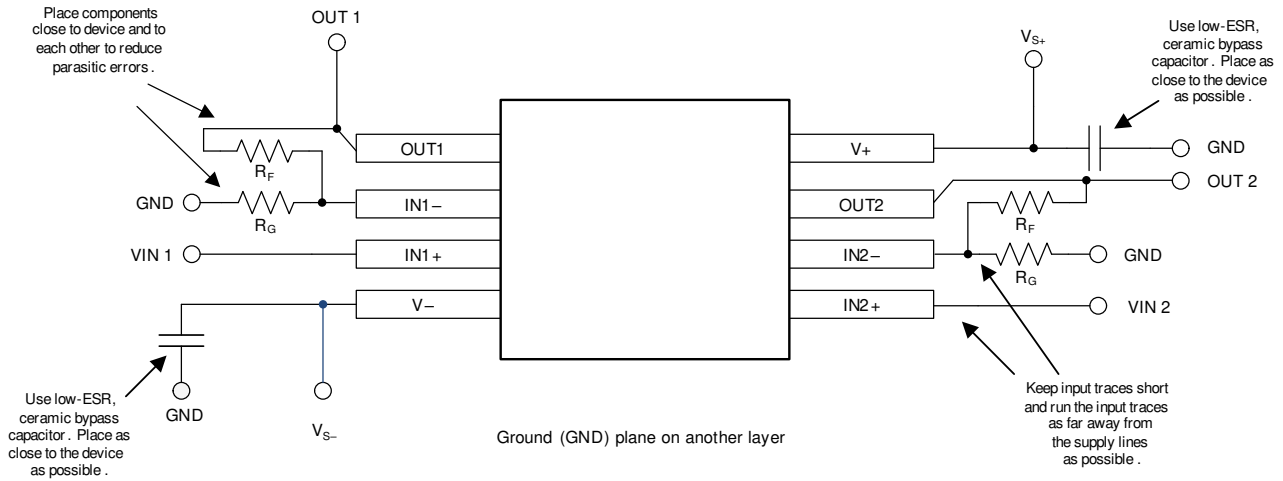

Figure 9-4. Layout Example
- Place the external components as close to the device as possible. As illustrated in Figure 9-4, keeping  $R_F$  and  $R_G$  close to the inverting input minimizes parasitic capacitance on the inverting input.